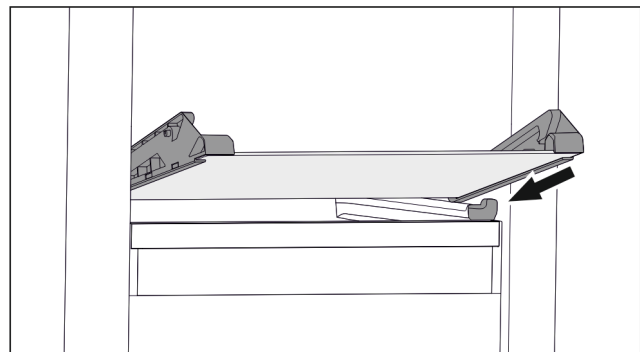

Fig. 41 Tilting drawer glass shelf
- ▶ Position glass shelf at an angle behind the stoppers. (see Fig. 41)